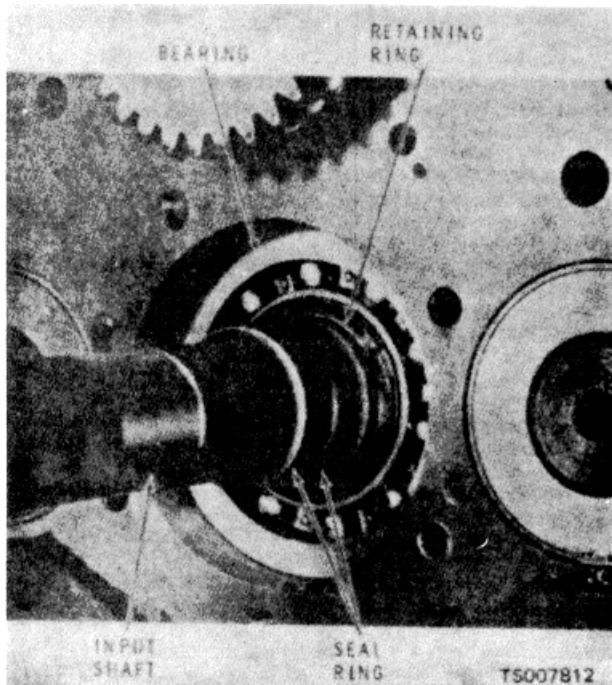

Figure 14-9. Input Shaft Installation
i. Press the bearing (31) into the housing until it rests firmly against its integral retaining ring. Install the input shaft (14) in the bearing, and secure with the locating ring (30). Make sure the two oil seals (28) are installed on the shaft as shown in figure 14-9. Install the stator (27, fig. 14-5), using shims (29) to take up play of the shaft (41). Secure the stator with capscrews (26) and lockwire.